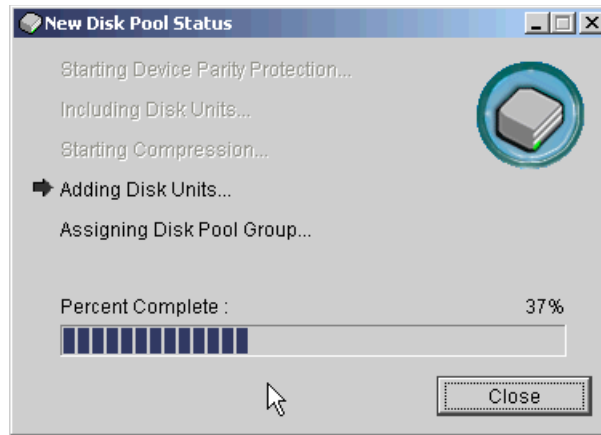

Figure 18-16 New Disk Pool Status
- Take note of and respond to any message dialogs which appear. After taking action on any messages, the New Disk Pool Status panel shown in Figure 18-16 displays and shows progress. This step might take some time, depending on the number and size of the logical units being added.